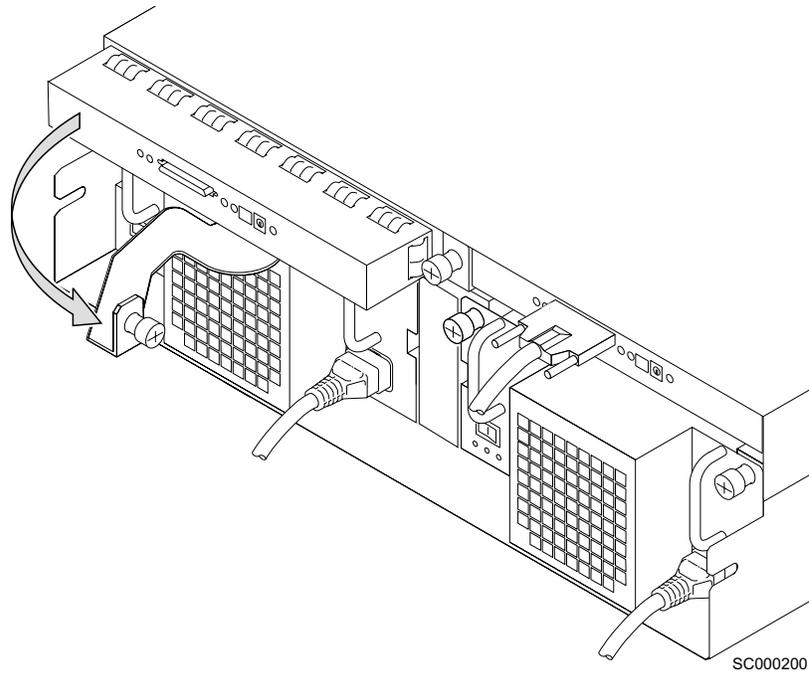

Figure 71. Opening the lever
3. Open the lever fully by moving it to the right. This action unplugs the card assembly from the backplane. See Figure 71